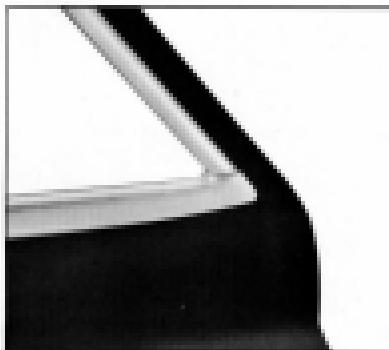

Fig. 63. '80 Sedan: Front Door Reveal Molding Junction
5. To remove center arm rest, remove two screws holding arm rest extension strap retainer at upper seatback structure, shown at "N", Fig. 63.